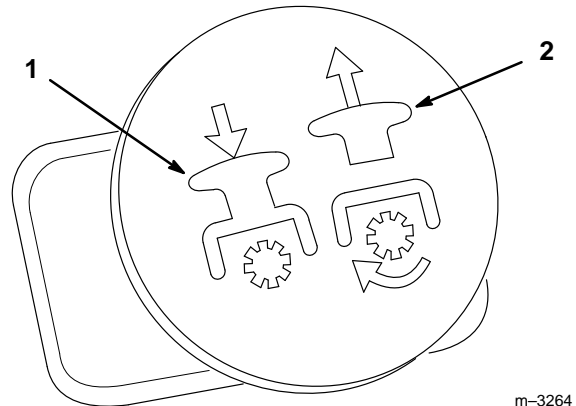

Figure 24
3. Pull the power take off (PTO) switch to ON (Fig. 24).